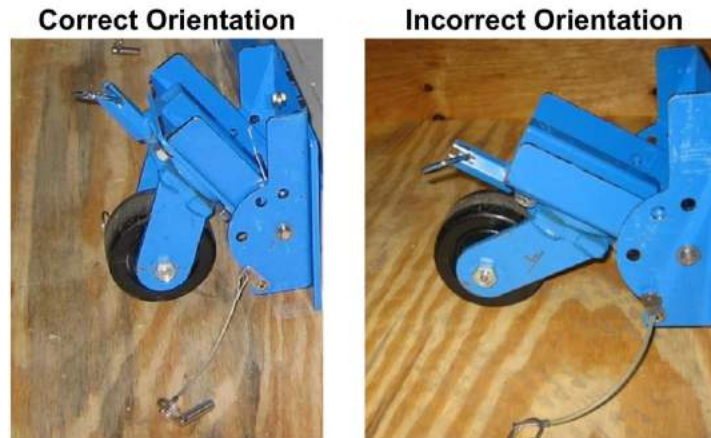

Figure 17: Caster Orientation
- After the caster assemblies are attached to the upper/lower frame assembly (described in next chapter), they are moved to the open position by ensuring the two quick-release pins are removed, then inserting the leverage bar into the square tube in the center of the caster swing plate. The caster must be correctly oriented with the wheel bracket nearly vertical, as shown in Figure 17, before applying pressure on the leverage bar.